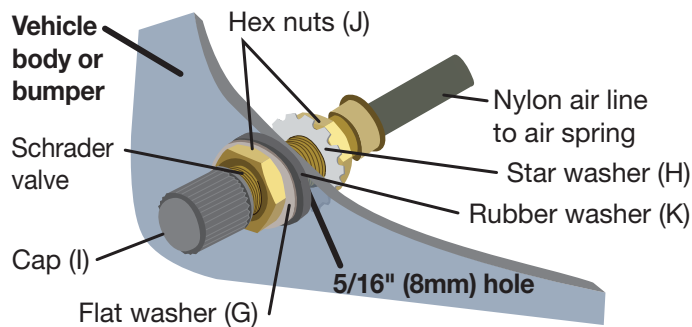

fig. 15
4. Install the Schrader valve (Fig. 15) in the chosen location. Attach the other end of the air line into the Schrader valve.